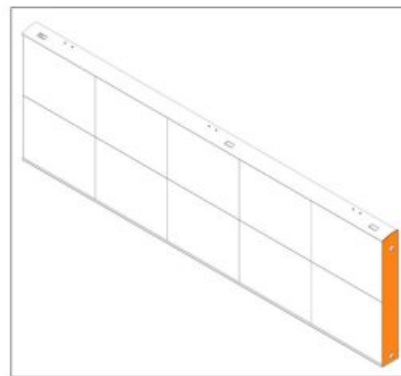

Figure 4: Border Installed
4. Ensure the pre-punched holes in the border align with the pilot holes in the section perimeter. With the holes aligned, use #10-16 x 0.375" tap screws (Daktronics part number HC-1186) to fasten the border to the section perimeter in all pre-punched hole locations in the border. Refer to Figure 4 for the finished appearance.